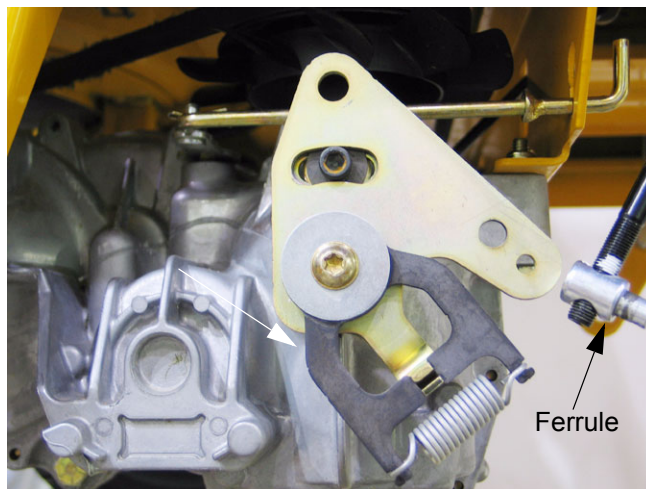

Figure 7.3
- 7.3. Disconnect the ferrule at the EZT end of each lap bar control rod from the neutral return assembly on each of the EZTs. The ferrules are secured to the neutral return assemblies with hairpin clips. See Figure 7.3.